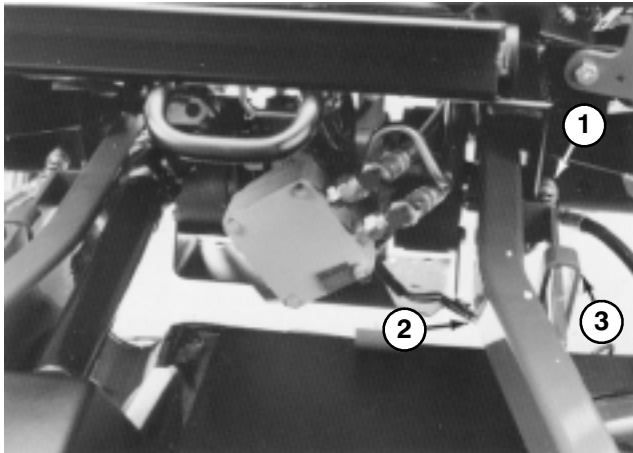

Figure 64
2. Disconnect (3) hydraulic lines (quick couplers) and wire harness at rear of deck (Fig. 64).
3. Remove hairpin cotters and H.O.C. pins securing rear deck straps to H.O.C. brackets on deck (Fig. 64).